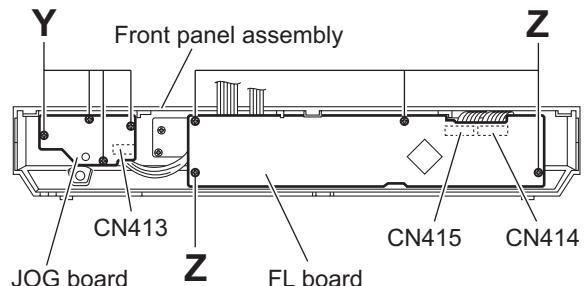

Fig.22
(See Figs. 22 and 23)
(1) From the inside of the front panel assembly, remove the four screws **Y** attaching the JOG board. (See Fig.22.)
(2) Take out the JOG board while lifting the JOG board from the front panel assembly little by little. (See Fig.22.)
(3) From the forward side of the JOG board, disconnect the wire from the connector CN413. (See Fig.22)
(See Fig. 22)
(1) From the inside of the front panel assembly, disconnect the wire from the connector CN413 on the JOG board. (See Fig.22.)